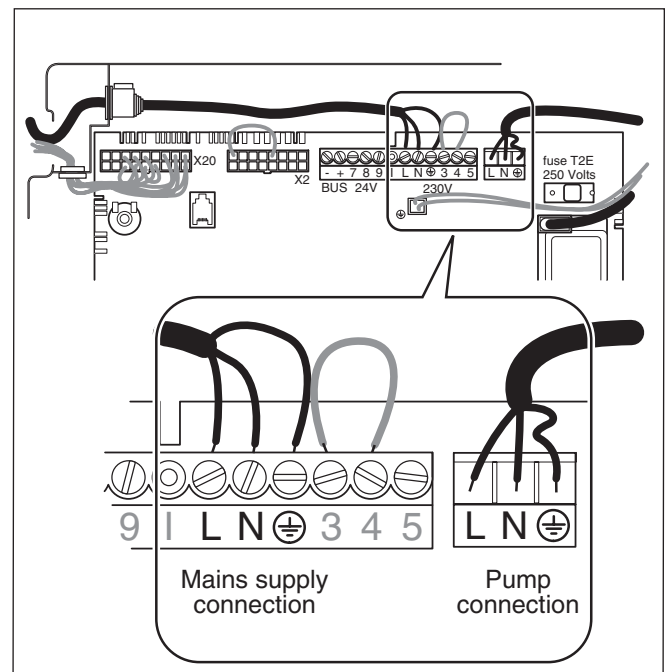

Fig. 4.8 Mains Supply Connection
- Connect the flex to the L, N and earth terminal block, see fig 4.8.